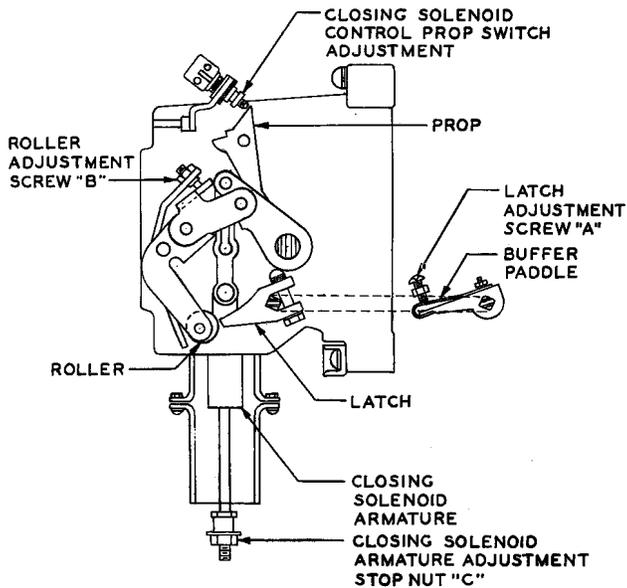

Fig. 5 - Adjustments — Breaker in Open Position
*#3.08 *Latch Adjustment:* See Fig. 5 — (Reqt 2.08)